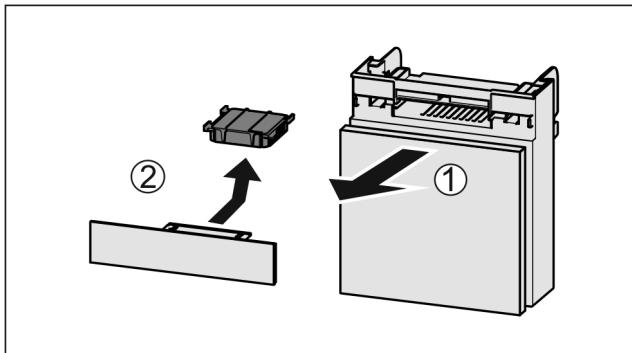

Fig. 159
- Pull out the compartment *Fig. 159 (1)*.
- Remove the carbon filter *Fig. 159 (2)*.